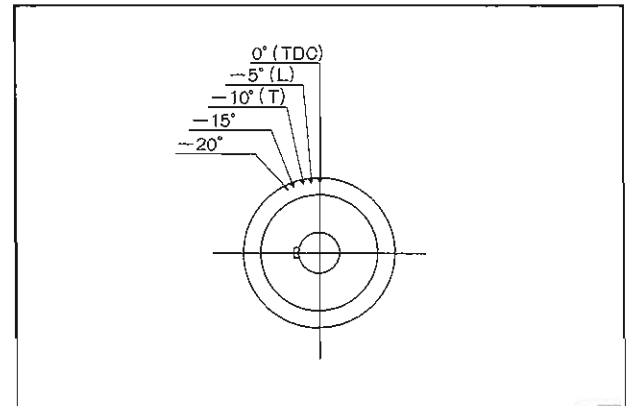

Fig. 5-6 Timing marks
1. Turn the eccentric shaft until the TDC mark on the drive pulley aligns with the indicator pin on the front cover. (See Fig. 5-6)